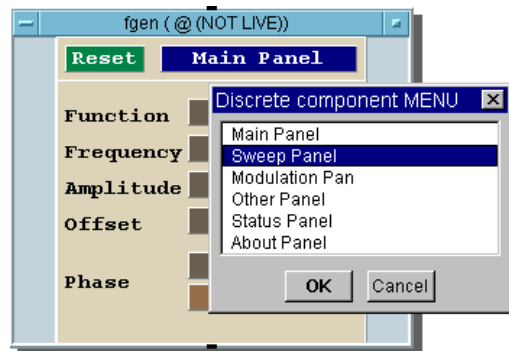

Figure 90 Sweep Panel in Discrete Component Menu
- 1 In the Panel Driver object, click **Main Panel** and select Sweep in the Discrete Component MENU presented as shown in Figure 90.